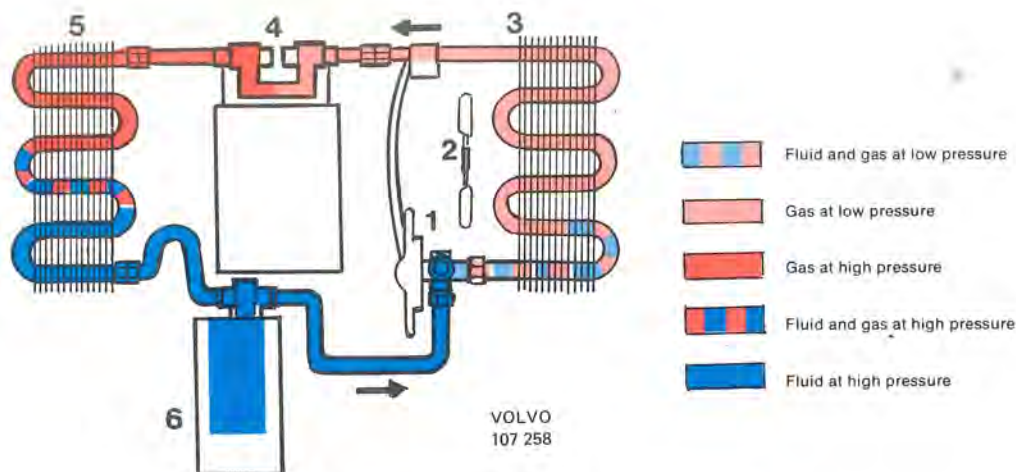

Fig. 8-47. Refrigerant circulation in air conditioning system
In order to explain the cooling process that takes place, it is suitable to start off with the thermostatic expansion valve, usually called the TEV (1, Fig. 8-47). Before the TEV, the refrigerant is in liquid form and at high pressure. When it flows into the inlet pipe of the evaporator, the temperature of the refrigerant immediately drops and is converted to part vapor, part fluid. Since the freezing point of the refrigerant is  $-32^{\circ}\text{C}$  ( $-26^{\circ}\text{F}$ ) at normal air pressure, it starts to boil and changes to vapor in the evaporator coil (3), while it absorbs heat from the warm air which the heater fan (2) blows round the pipeline. Due to the fact that heat is absorbed from the air, it becomes colder. It is this cold air which is blown out through the air ducts into the compartment. In the evaporator coil, the latent heat has caused the refrigerant to convert to a gaseous form, without any change in temperature. Before the refrigerant reaches the end of the coil, it absorbs, however, more heat and the gas temperature rises.